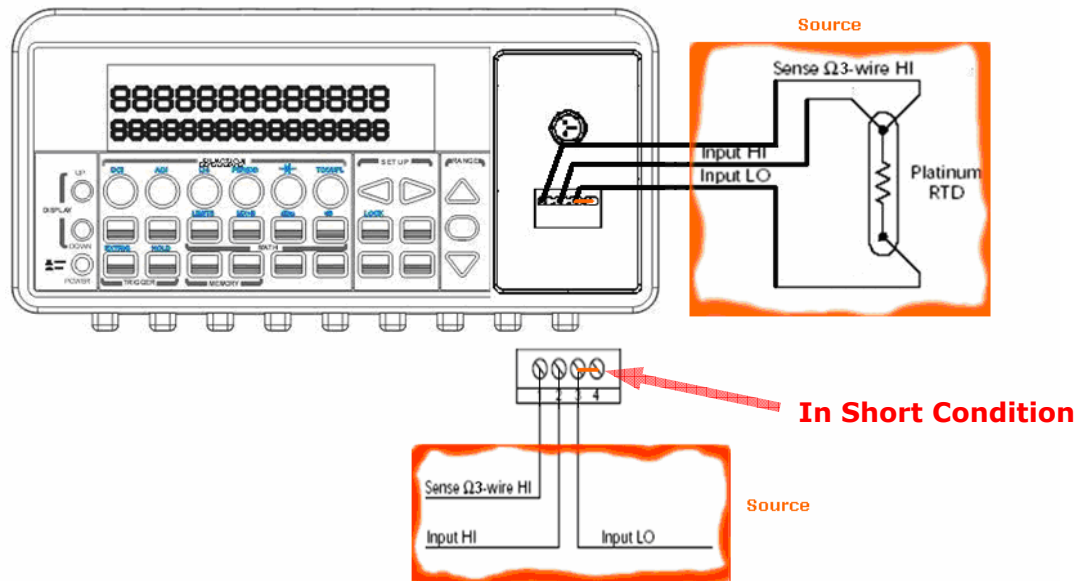

Figure 3-16
- ① Use terminals switch to select front terminals.
- ② Insert a specified adapter into the front terminals. Connect the low thermal patch leads to the adapter as shown in **Figure 3-16**.
- ③ Configure sensor type as you would be with 4-wire RTD and unit using CONFIG + TEMP and ◀ or ▶. When ready, press ENTER button.
- ④ Press TEMP button.
- ⑤ Place RTD in the desired position and take the reading on the display.